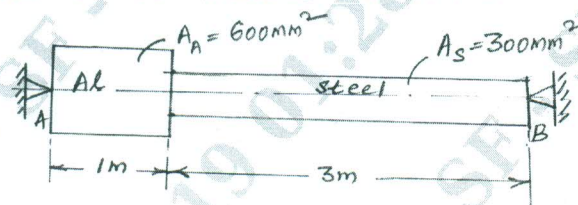

Fig.Q2(b)
b. A composite bar is rigidly fitted at the supports A and B as shown in Fig.Q2(b). Determine the reactions at the supports when temperature rises by 20° . Take $E_A = 70 \text{ GPa}$, $E_S = 200 \text{ GPa}$, $\alpha_A = 11 \times 10^{-6}/^\circ\text{C}$ and $\alpha_S = 12 \times 10^{-6}/^\circ\text{C}$.